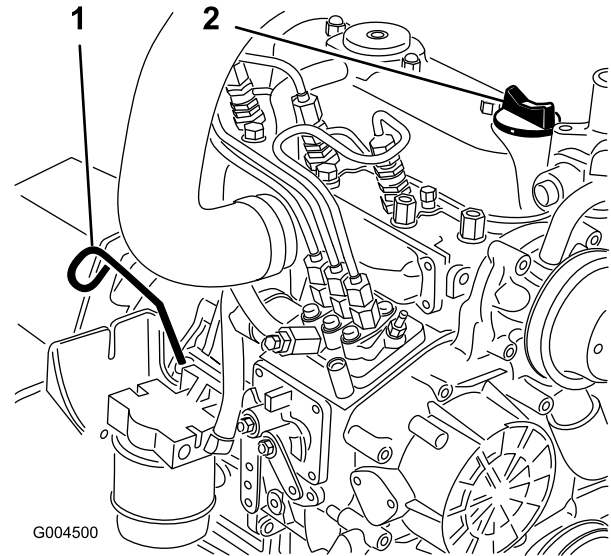

Figure 42
3. Remove the dipstick (Figure 42), wipe it clean, and install the dipstick. Remove the dipstick and check the oil level.
4. If the oil level is below the Full mark, remove the fill cap (Figure 42) and add oil until the level reaches the Full mark on the dipstick.